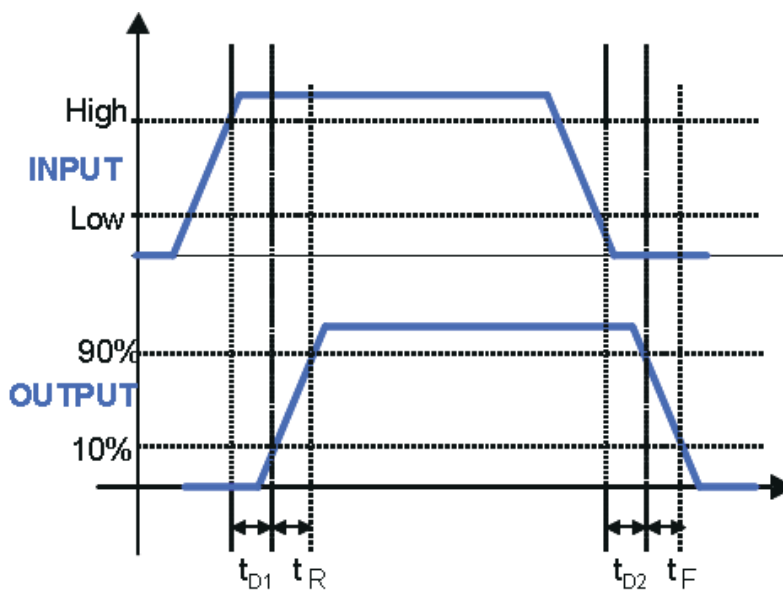

图 5-1. Timing Diagram (OUTH tied to OUTL)(Input = IN, Output = OUT (EN = VDD), or Input = EN, Output = OUT (IN = VDD))
(1) Ensured by design and tested during characterization. Not production tested.
(2) See 图 5-1.
(3) Output pull-up resistance here is a DC measurement that measures resistance of PMOS structure only, not N-channel structure. The effective dynamic pull-up resistance is 3 x R_{OL}.